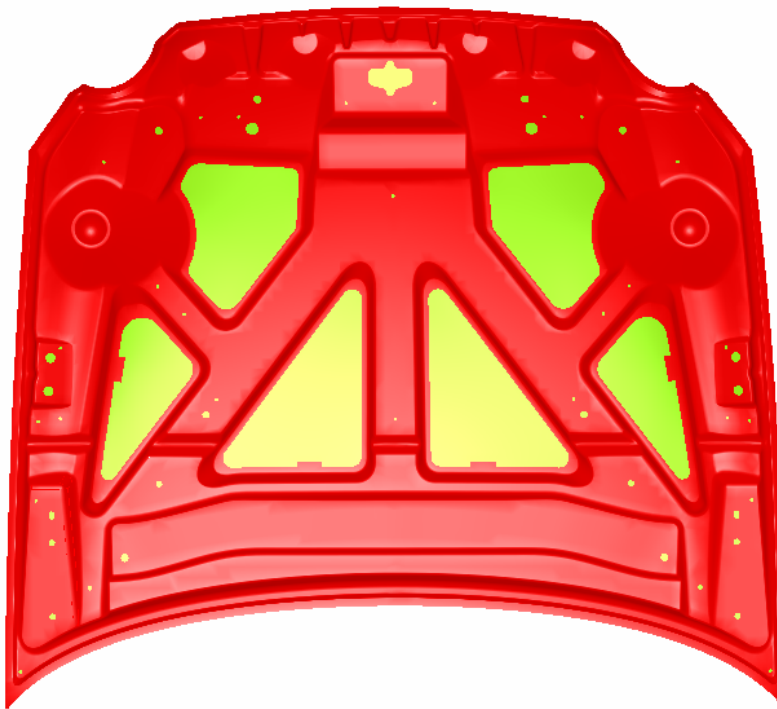

Figure 22 Auto Fill
7. Click the middle mouse button to validate the result illustrated in Figure 22.